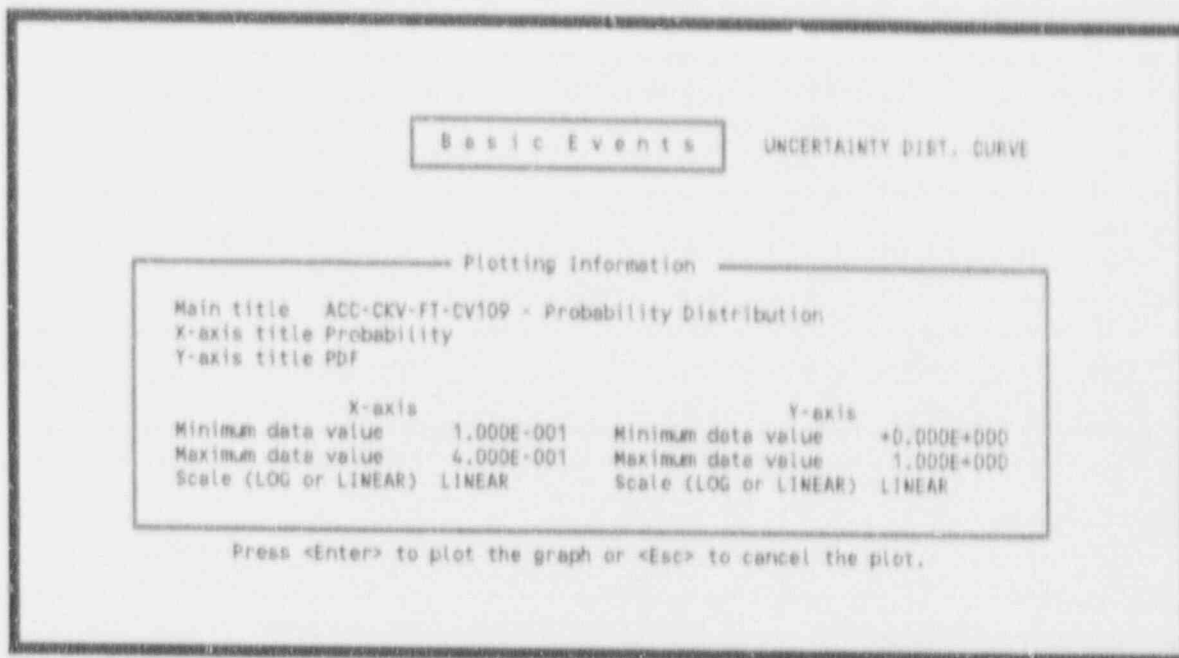

Figure 130. Monte Carlo plotting information.
**5.5.2.2 Monte Carlo Sampling.** This option plots an uncertainty distribution curve for a selected basic event using Monte Carlo sampling. To invoke this option, enter an <M> in the option field, highlight the desired event, and press <Enter>. Figure 129 will be displayed. This screen prompts you to enter the number of samples to be generated during simulation and the initial value of the seed for the random number generator. A default seed value for the random seed will be provided. You may use this value or enter a new value for the seed. To obtain a random seed from the system clock, enter a zero in this field. There will also be a default value in the field for the number of samples. You may use this value or enter another value. When values have been entered, press <Enter>. The samples will be calculated and when complete, Figure 130 will be displayed. The screen shows the plot information that will be used to plot the uncertainty distribution curve. You can change any of the values displayed. When complete, press <Enter>. The plot will be generated and displayed on the screen.